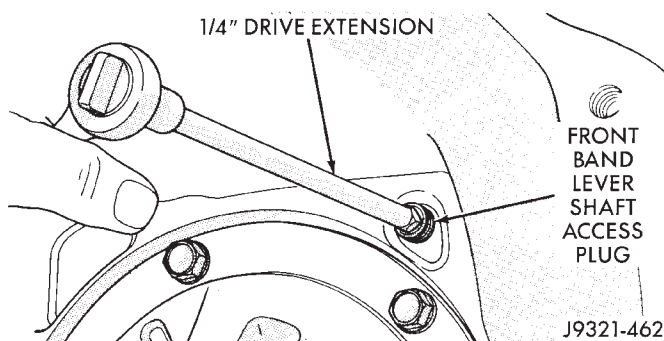

Fig. 13 Removing/Installing Front Band Lever Shaft Access Plug
(18) Remove front band lever shaft access plug (Fig. 13). Plug is accessible through converter housing. Use 1/4 inch drive extension to remove plug as shown.
(19) Loosen front band adjusting screw locknut 4-5 turns. Then tighten band adjusting screw until band is tight around front clutch retainer. This prevents front/rear clutches from coming out with pump and possibly damaging clutch or pump components.
(20) Remove oil pump bolts.